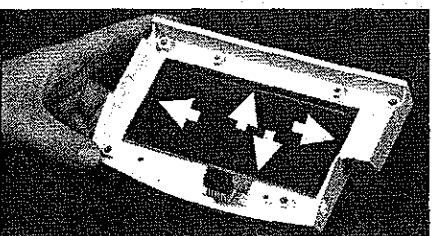

Figure 20
4. Remove and discard the 4 panel seal strips located on the underside of the membrane switch (see Figure 20).
3. Turn the bezel top over. Peel off the adhesive backing on each of the four strips of panel seal, and attach them to the underside of the membrane switch as illustrated in Figure 20.